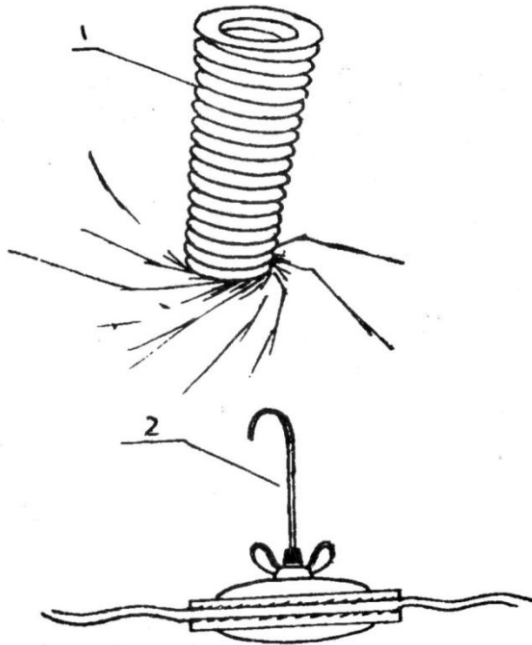

Fig 18 - Repairing
7.2 When the raft is damaged, repair it at once. A repair kit with necessary materials and tools is provided in the raft for emergency use. Depending on size of the hole, conical rubber plug or clamp provided could be used (Fig. 18).